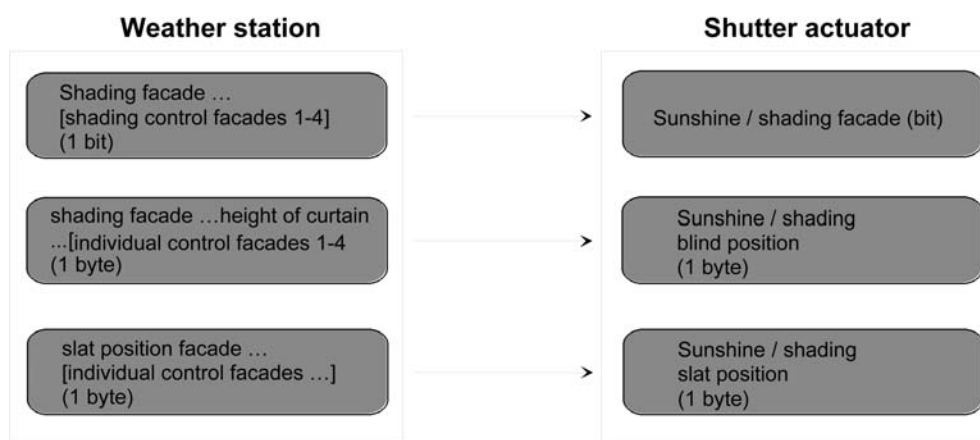

Figure 29: Programming of the communication objects for application example IV
- reaction at the beginning of sunshine / shading = variable blind position, variable slat position.(Figure 29)